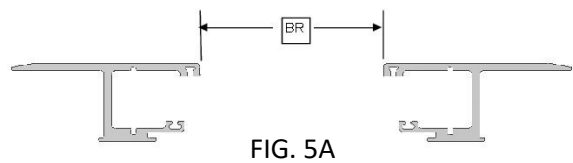

FIG. 5A
With the tailgate closed, position the rails so the endcaps are 1/16" away from the tailgate (FIG. 5A)
Check for proper spacing by measuring between the rails at the canister and the tailgate end of the rails (Fig 5A). The measurement should be equal to or less than those in Fig 5B. The Rail Brackets and Shims have been pre-installed to achieve the proper Between the Rail dimensions (BR) when placed on an average factory truck bed. However, not all truck beds are average dimensionally and some have optional plastic caps or over the rail spray-in bedliners.
Verify the BR Dimension after the rails are leveled (STEP 5, FIG. 5A & FIG. 5B)